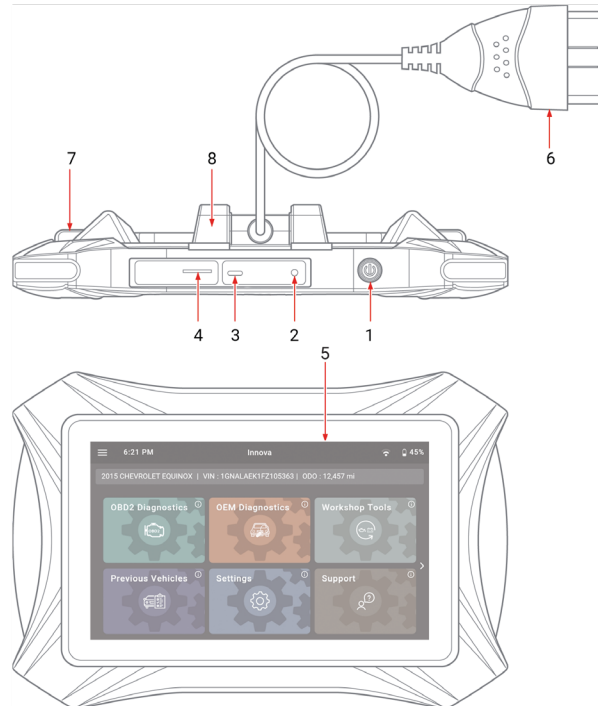

Figure 1: Tablet Controls
See **Figure 1** for the locations of items 1 through 8, below.